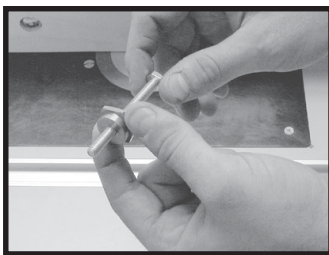

fig. 1
- 2) Thread bolts into "T"- track sliders (fig.1).